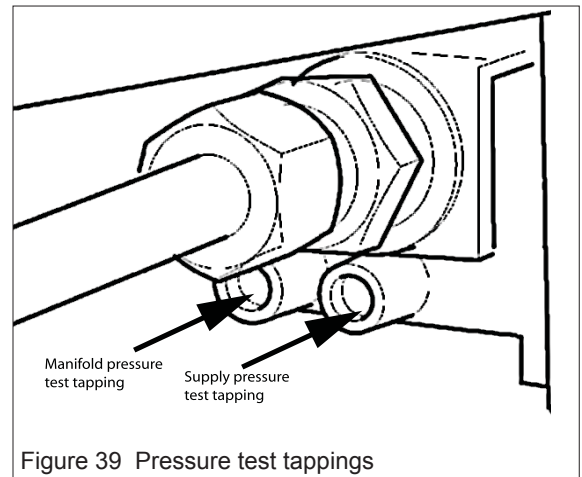

Figure 39 Pressure test tappings
- The pressure test tapping locations are shown in figure 39. A built-in non-adjustable regulator controls the burner manifold pressure. The correct pressure range is shown in the table in *Specifications* section of this manual. The pressure check should be made with the burner alight and at its highest setting. See *Lighting Instructions* section for full operating details.